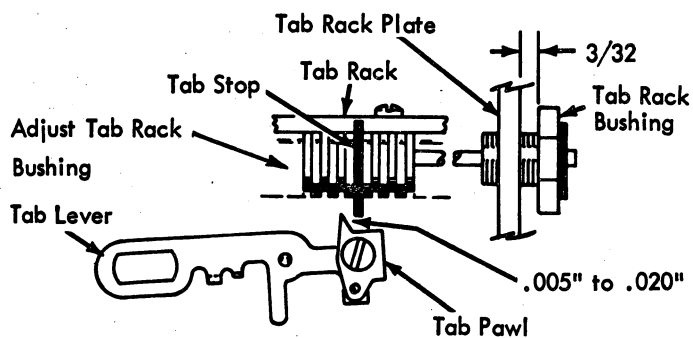

FIGURE 241. Tab Rack Bushing
3. **Tab Rack** - Adjust the tab rack left or right for a clearance of .005" to .020" between the tip of the tab lever pawl and a set tab stop with the tab lever latched out. This adjustment is made by the tab rack bushing on the RH end of the tab rack. The clearance may be observed by holding the carrier and latching the tab lever out (Fig. 241).